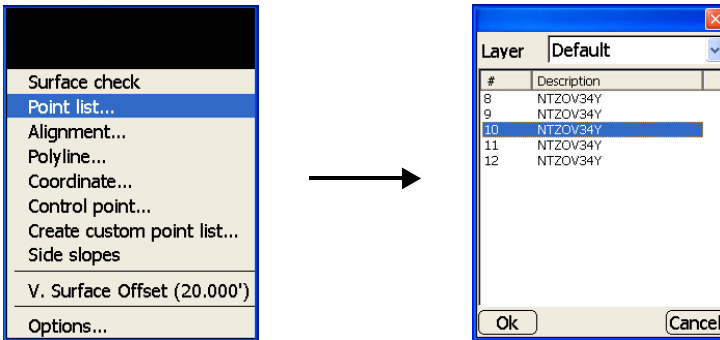

Figure 7-7. Stake-out Point Information
1. To stake-out points from the selected point file, press **Survey ▶ Stake-out ▶ Point list** (Figure 7-7).
2. On the point list dialog box, select the desired layer and the desired point for stake-out, then press **Ok** (Figure 7-7).